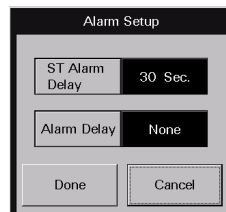

FIGURE 6-8 Alarm Setup Dialog Box
1. Select the **Alarm Setup** button. The **Alarm Setup** dialog box (shown in FIGURE 6-8) is displayed.